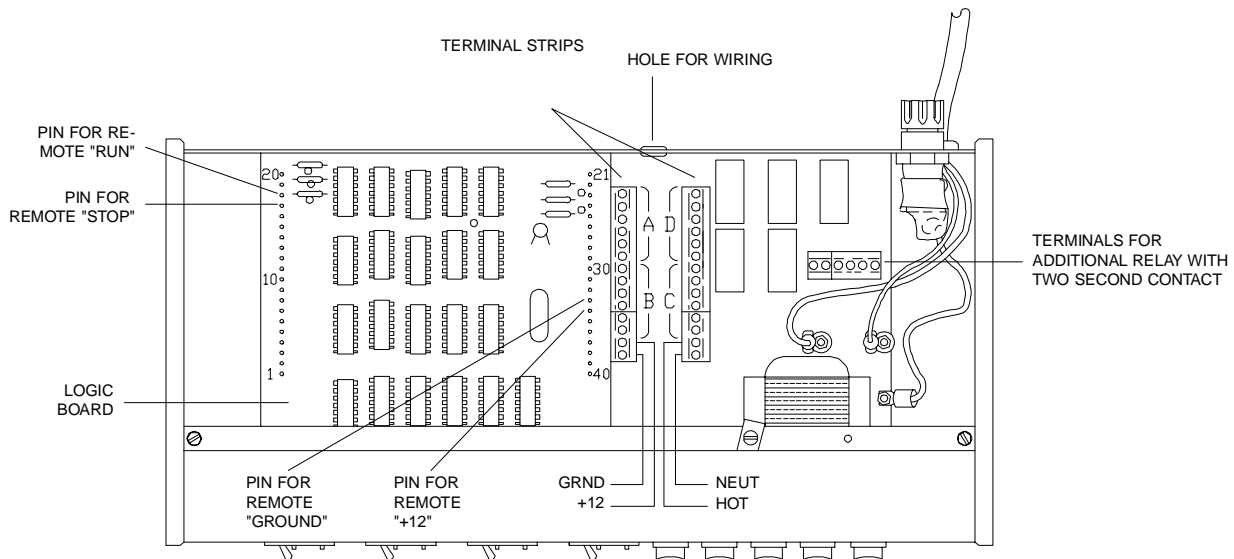

Figure 1: View of DVSP with cover removed
Remove the two screws on the upper rear panel which secure the top cover. Look at **Figure 1** to locate the two barrier terminal strips located near the center of the large printed circuit board. The terminals are grouped beside letters denoting relays **A**, **B**, **C**, and **D**, and are marked **C** for **Common**, **NO** for **Normally Open**, and **NC** for **Normally Closed**. For convenience, the power line (fused and switched) is connected to two of the terminals on the DVSP mother board, labelled **HOT** and **NEUT**. **HOT** is the high side of the line and **NEUT** is the low side.
3. Supply 12 VDC by connecting the **+12** terminal to one of the **NO** terminals on the pulsed relay (**Figure 1**) and connecting that **NO's** related **Common** to the **Common** of the **NO** which has the 12 VDC solenoid connected to it.
The DVSP can be wired so that the functions done by RUN, STOP, and AUTO buttons can be done by remote contact closure. This involves soldering wires from the control device to the appropriate pins on the logic board. (**Figure 1**) For the RUN function, establish *momentary* contact between pins 18 and 35 (+12). For the STOP function, momentarily connect pins 17 and 35. Connecting pin 22 to pin 34 (ground) will toggle the DVSP in and out of the AUTO mode.